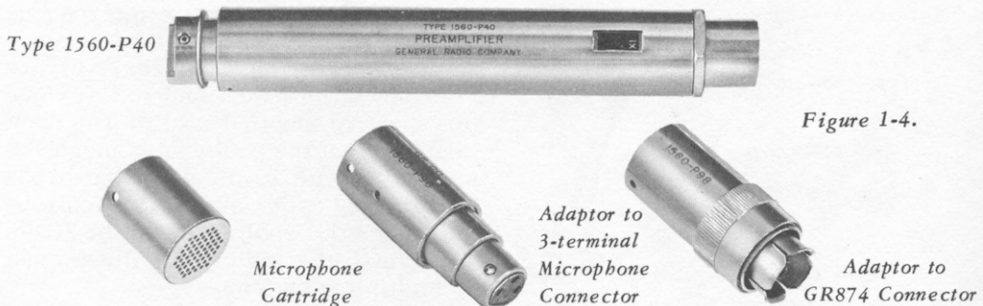

Figure 1-4.
1.6.4 TYPE 1560-P40 PREAMPLIFIER. The Type 1560-P40 Preamplifier (Figure 1-4) is a high-input-impedance, low-noise preamplifier. It is particularly well suited for amplifying the output of piezoelectric transducers such as microphones and vibration pickups, and for driving long connecting cables without loss in signal voltage. A switch on the preamplifier provides a voltage gain of either 1:1 or 10:1.